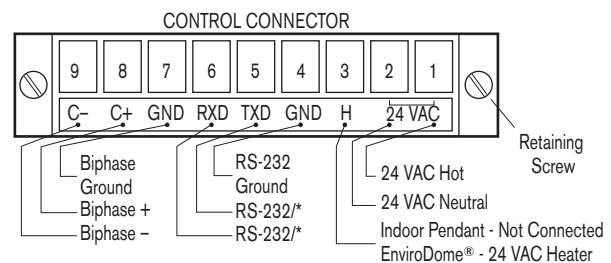

Figure 1
- 5.2.7. Strip the wires and connect the appropriate connectors to the stripped wires, then tighten the screws securely (see FIGURE 1).